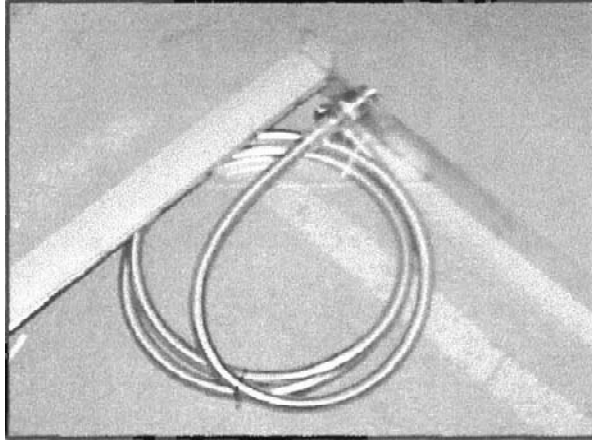

Figure 4 Water Connection
1. The water is connected to the rear of the installation base at the 3/4" NPT female coupling. (See Figure 4)